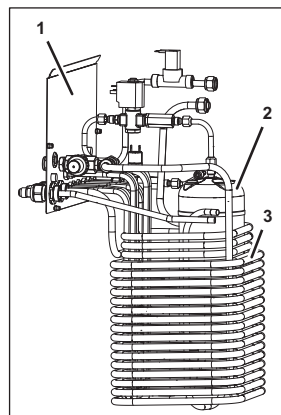

Figure 67
10. Lift the cooling coil basket (Figure 67/3) with connecting plate (Figure 67/1) and carbonator tank (Figure 67/2) out of the unit.
15. Lift the carbonator tank (Figure 67/2) up and out of the cooling coil basket (Figure 67/3).
16. Position the new carbonator tank (Figure 67/2) within the cooling coil basket (Figure 67/3).
17. Attach the carbonator tank (Figure 67/2) to the cooling coil basket (Figure 67/3) using a cable tie.
18. Make sure the carbonator tank (Figure 67/2) is firmly placed against the cooling coils.
23. Position the cooling coil basket (Figure 67/3) with connecting plate (Figure 67/1) and carbonator tank (Figure 67/2) within the unit.